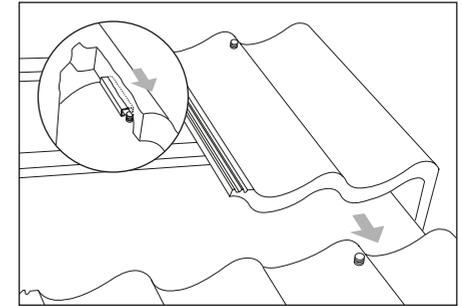

Fig. 5 – Slide next unit down
- 12 Lay next cloak verge unit in a similar manner, by sliding it down so that embedded PVC channel locates over nylon spacer unit and tile nibs are in contact with tiling battens (Fig. 5).